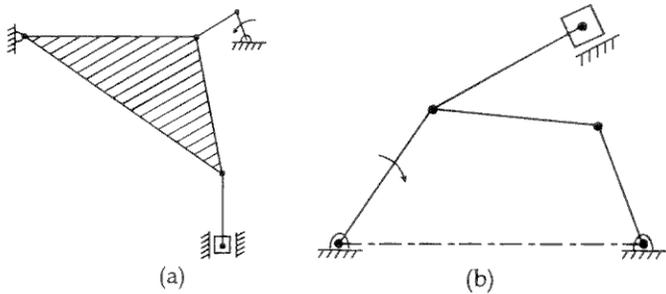

Figure 1
- (d) Derive an equation for the degree of freedom of a mechanism. Prove that the mechanisms shown in figure 1 is a constrained kinematic chain.